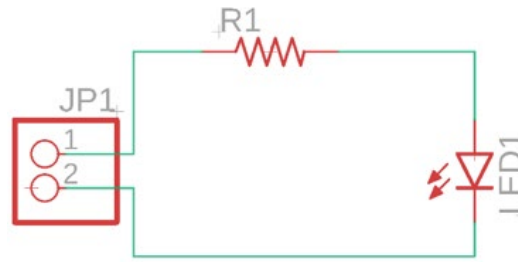

Figure 8 - LED circuit.
7. Let draw the schematic in **Figure 8** below.